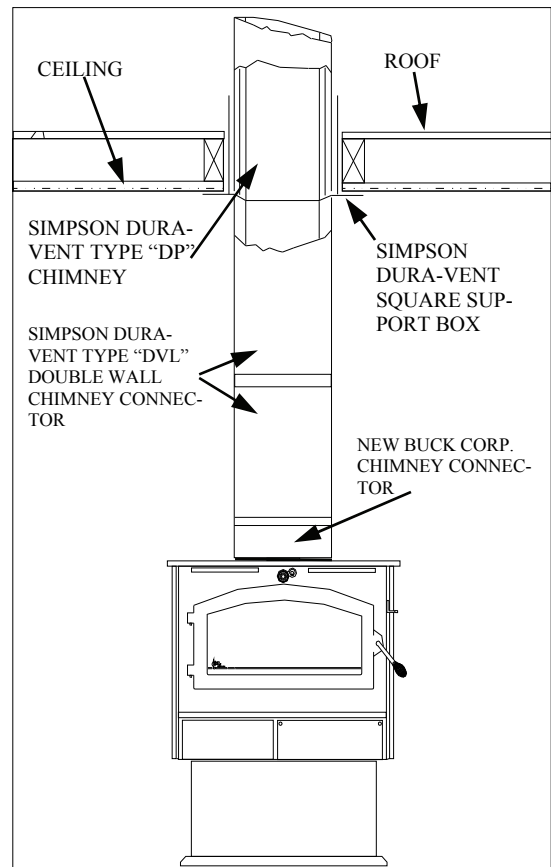

FIGURE 4
- (a) Chimney pipe is 3' higher than roof at the point where it penetrates the roof. (See Figure 4.)
4. Next, install a New Buck Corporation Chimney Connector to the flue of the heater. (See Figure 4.)